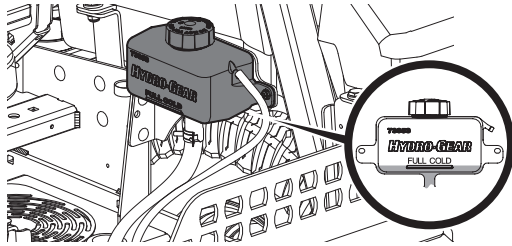

Fig. 38
2. Turn the reservoir cap counterclockwise to remove, then check the oil level in the reservoir. Oil should be visible at the bottom of the cup, but the oil level must NOT be above the "FULL COLD" line (Fig. 38). DO NOT FILL THE RESERVOIR.